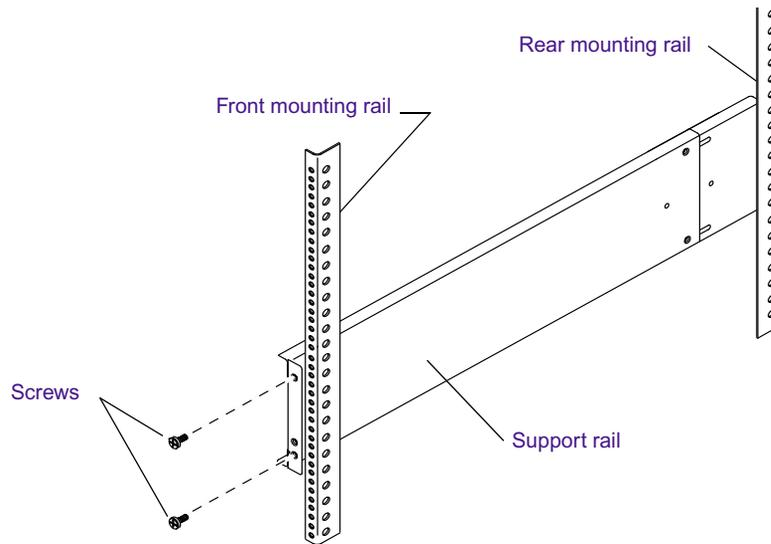

Figure 47 Attaching the MediaDock Ultra320 Rails to the Front Mounting Rails
- Loosely attach the front of the support rail to the front mounting rail with the two pan-head screws in the top and the bottom holes (see Figure 47).